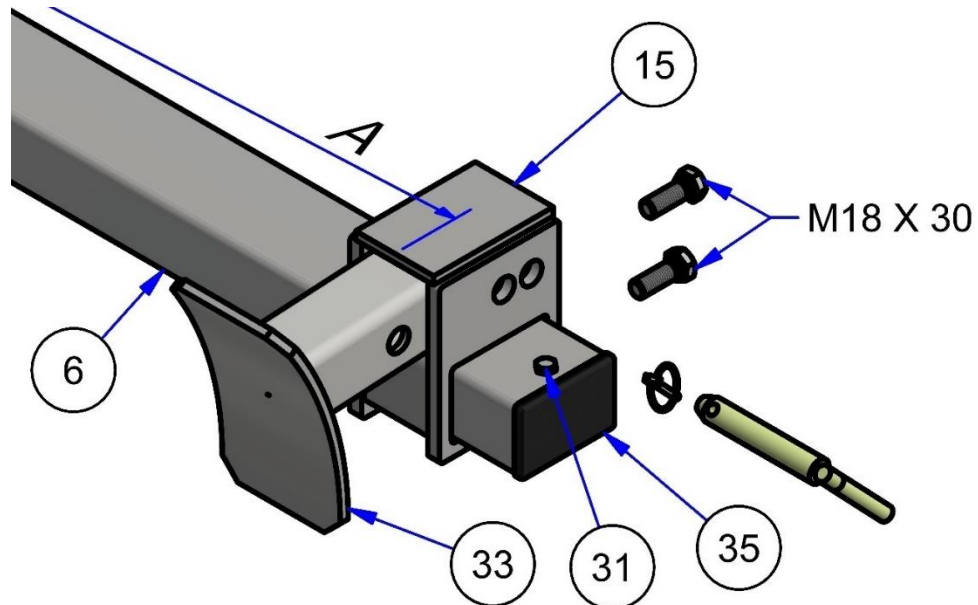

**Figure 23 (Underrun Bar Assembly)**
2. Bolt Items 1 and 2 onto the underrun bar centre (Item 3) using the four M16 nuts and bolts as shown in Figure 23